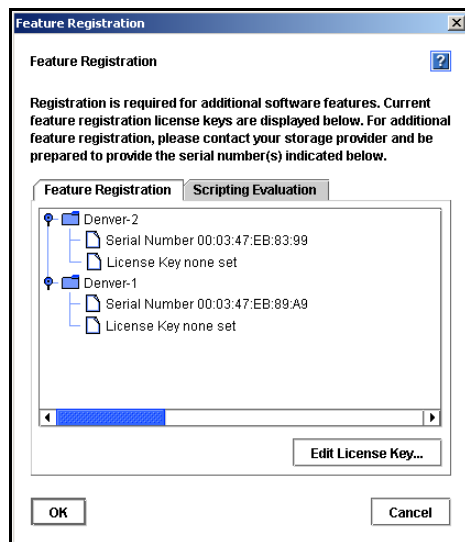

Figure 198. Opening the Feature Registration Window
3. Click Registration Tasks and select Feature Registration. The Feature Registration window opens, shown in Figure 198. Listed are all the SSMs in that management group.